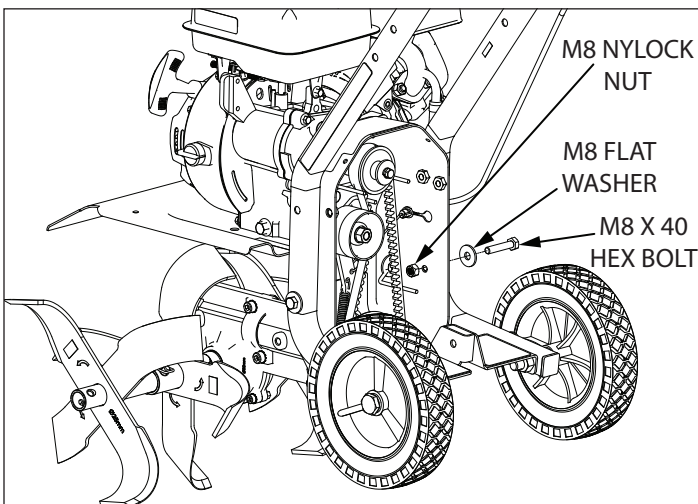

FIGURE 7
8. Align lower handlebar assembly mount holes with lower mount holes on pulley box. Place one M8 Flat Washer on one M8 X 40 Hex Bolt and insert through lower mount hole of lower handlebar assembly and pulley box. Place one M8 Nylock Nut on bolt and hand tighten. Repeat for other side. **SEE FIGURE 7**